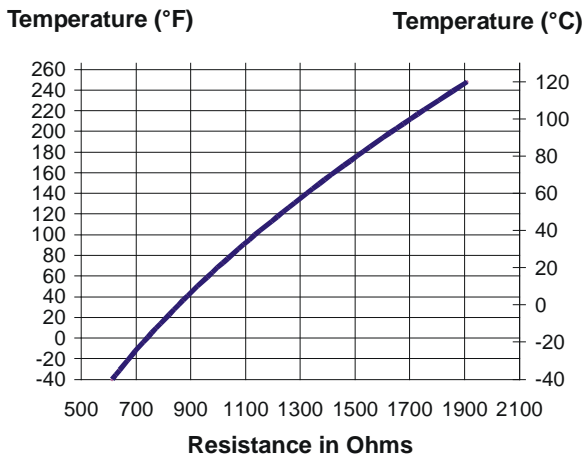

Figure 15: Nominal Temperature vs. Sensor Resistance
- d. See Figure 15 to verify that the measured temperature and resistance conform to established temperature and resistance values.
- e. If the measured values conform to the values in Figure 15, proceed to Step 3.